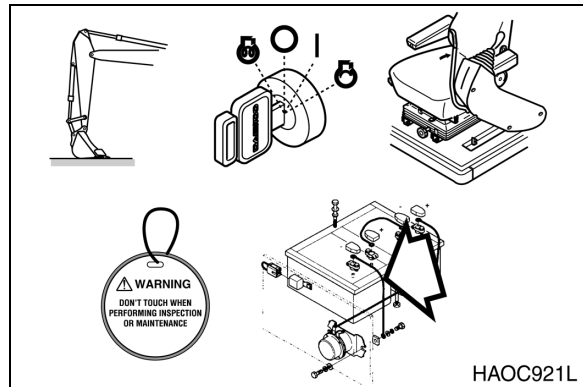

**Figure 3**
2. Park on firm and level ground and swing turntable to approximately a 90° with respect to tracks. See Figure 3.